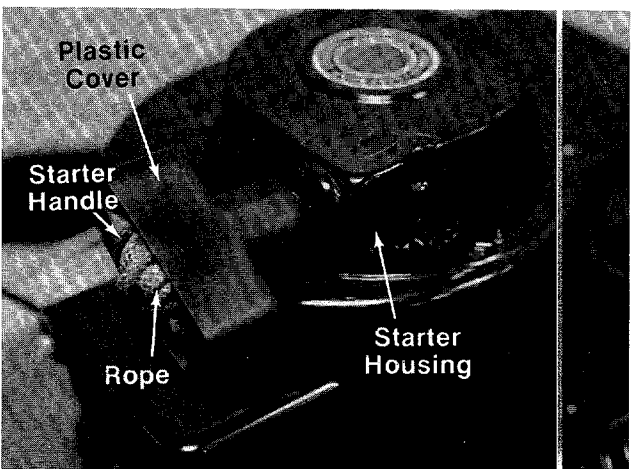

FIGURE 9.
15. The starter rope is pulled out from the engine, wrapped around the starter handle and secured with a plastic cover for shipping purposes. Hold the rope so that it does not retract into the starter housing on the engine. Remove the plastic cover and discard. See figure 9.